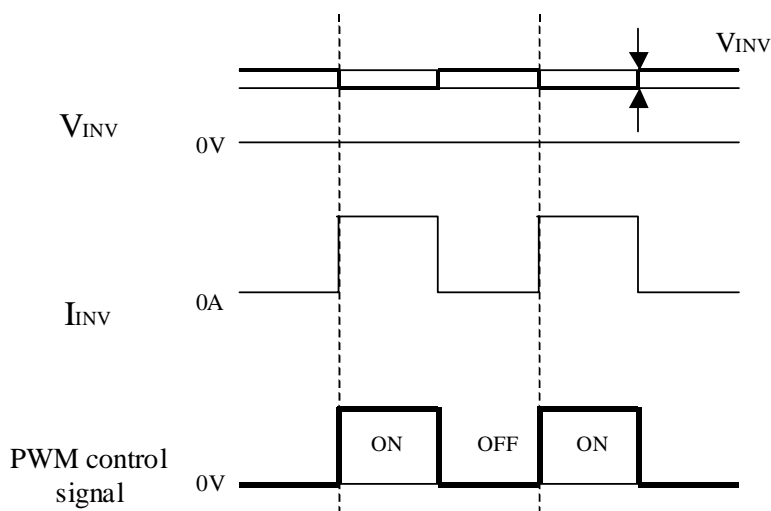

Fig.4 Brightness control voltage.
- Brightness control voltage is switched for "ON" and "OFF", as shown in Fig.4. Voltage difference generated by this switching, V_{INV} , may affect a sound output, etc. when the power supply is shared between the inverter and its surrounding circuit. So, separate the power supply of the inverter circuit with the one of its surrounding circuit.